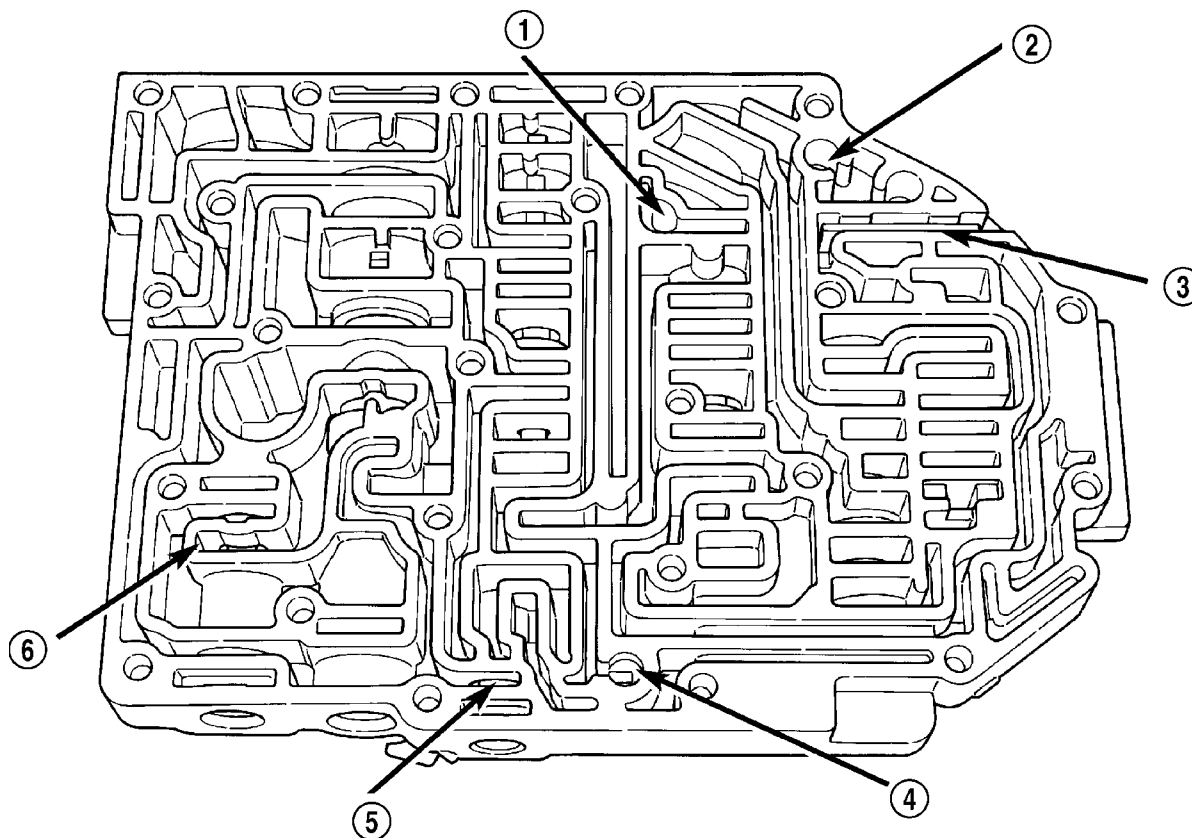

Fig. 360 Ball Check Location
(5) Install check balls into position as shown in (Fig. 360). If necessary, secure them with petrolatum or transmission assembly gel for assembly ease.